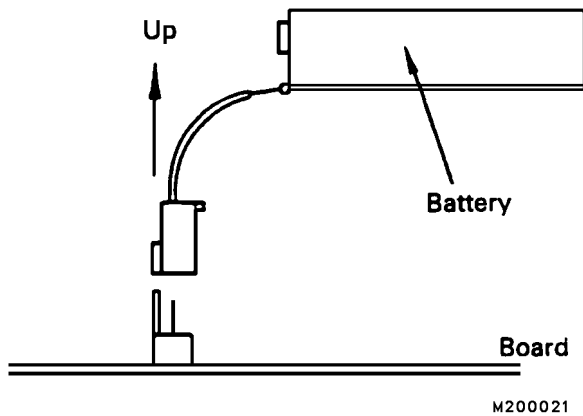
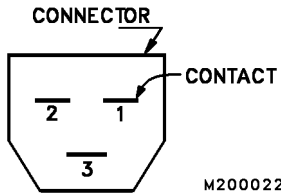

FIGURE 20-11. BATTERY CONNECTION
FIGURE 20-12. SENSOR SIDE CONNECTOR VIEW
2. Hold valve (2, Figure 20-11) with wrench while removing the adapter/sensor assembly (3 & 4).
3. Remove sensor (4) from adapter (3).
1. Install a new O-ring onto sensor (4, Figure 20-11) and install sensor onto adapter (3). Tighten the sensor to **22–29 ft.lbs. (30–39 N.m) torque**.
2. Install a new O-ring onto adapter (3) and install complete adapter/sensor assembly onto valve (2). Hold the valve body and tighten adapter/sensor assembly to **103 ft.lbs. (176 N.m) torque**.
3. Connect the sensor wiring to the truck wiring harness. The sensors have three wires. Be sure that wires are connected correctly. (Figure 20-12)